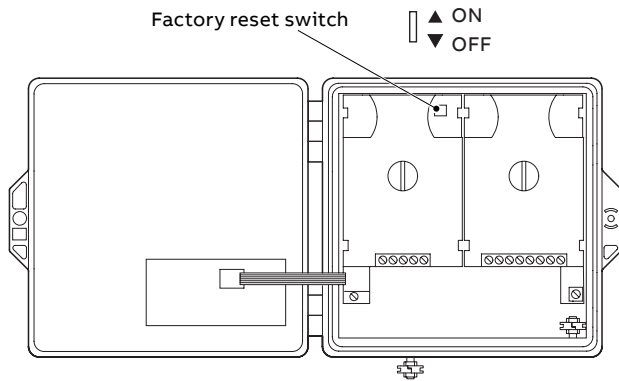

Figure 3 Resetting the unit
- 1 Set the factory reset switch to the 'ON' position. Refer to Figure 3.